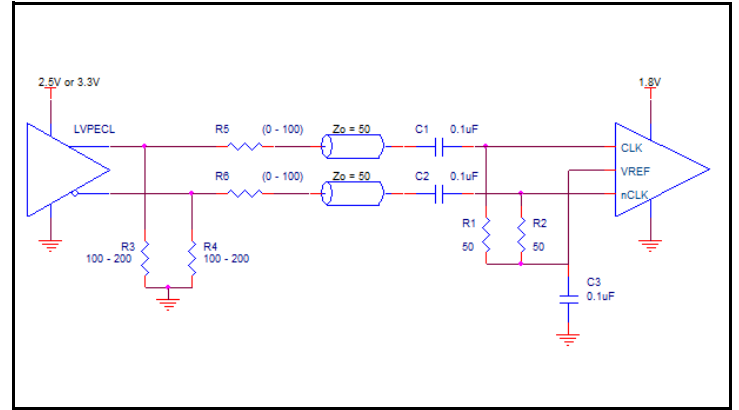

Figure 2B. Differential Input Driven by an LVPECL Driver - AC Coupling
- $V_{REF}$  specification is applicable to the AC-coupled input interfaces shown in *Figures 2B and 2C*.